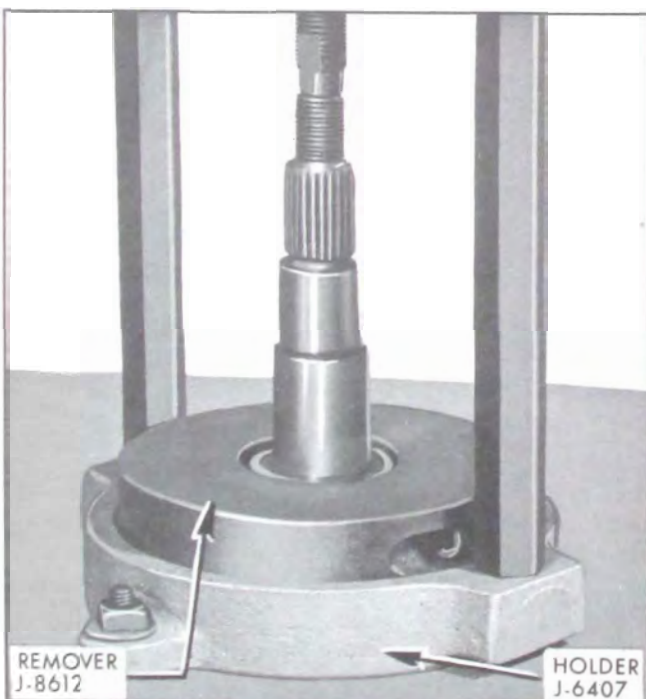

Figure 6-17—Removing Rear Pinion Bearing
1. If rear pinion bearing is to be replaced or pinion depth setting is to be changed, remove rear pinion bearing from pinion shaft using Remover J-8612 with Holder J-6407. See Figure 6-17.